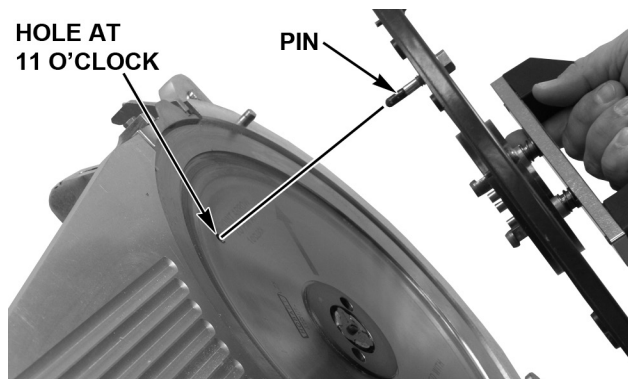

Fig. 12
- The Pin (Fig. 12) on the Knife Removal Tool fits the hole in the Knife at the 11 o'clock position (Fig. 12).